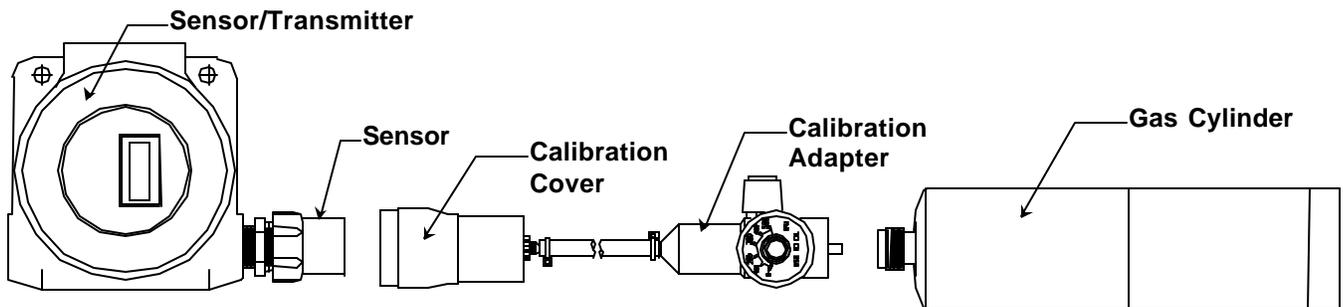

Figure 6: Gas cylinder and Typical Calibration Adapter
- Attach the calibration adapter to the cylinder of gas associated with the S/T. See **figure 6**
- Attach the calibration cover over the sensor. See **figure 6**